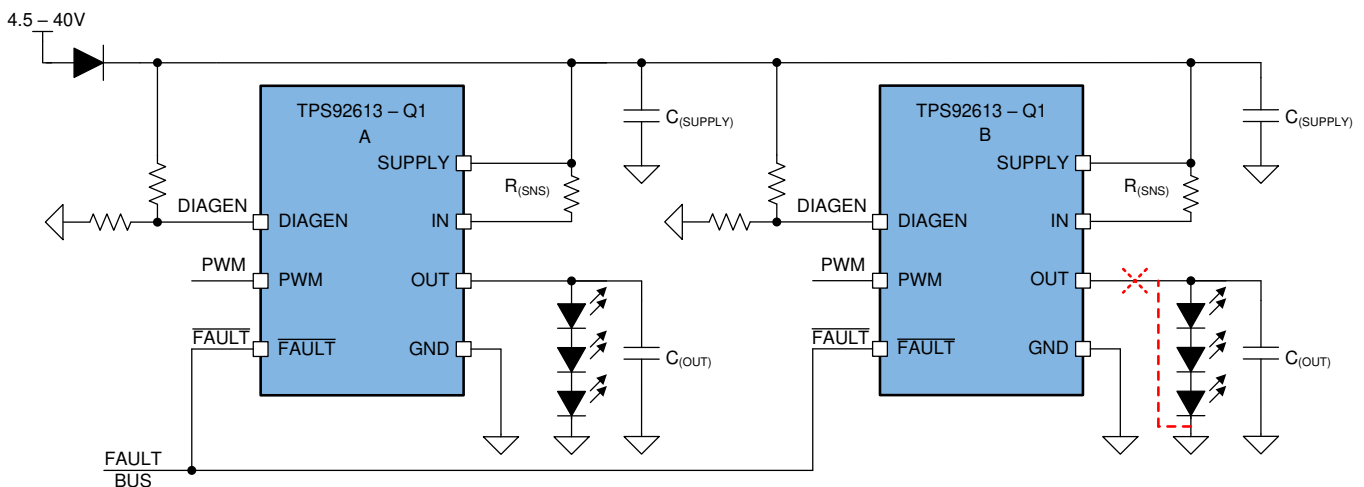

图 22. Typical Application Schematic for One-Fails-All-Fail
Based on this feature, the TPS92613-Q1 device is able to construct a FAULT bus by tying  $\overline{\text{FAULT}}$  pins from multiple TPS9261x-Q1, TPS9263x-Q1 or TPS92830-Q1 devices to realize one-fails-all-fail function as Figure 22 showing. The right side TPS92613-Q1 (B) detects either LED open-circuit fault or LED short-to-GND fault and pulls low the FAULT pin. The low voltage on FAULT pin is detected by left side TPS92613-Q1 (A) because the FAULT pins are connected of two devices. The left TPS92613-Q1 (A) turns off the output current as a result.